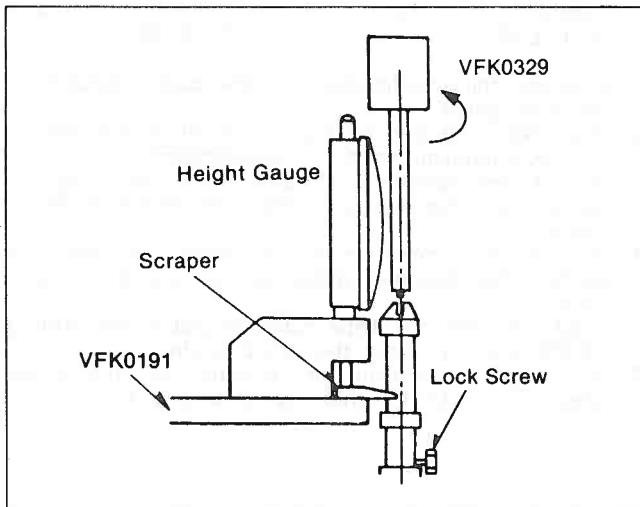

Figure M12
3. Lower 2 tape guide posts (P2 and P3) by turning the Post Adjustment screwdriver so that the condition of height becomes as shown in Figure M12. That is, the lower edge of Tape guide should be lower than surface of Adjustment Plate.